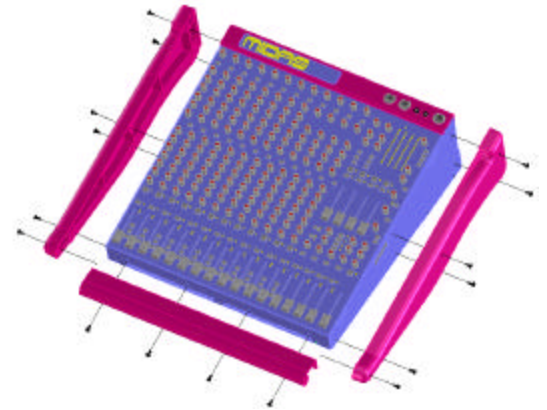

fig. 4
2. Loosen the 16 screws shown in fig. 4 with the Torx screwdriver and remove the two plastic side covers and the armrest. Keep the side covers, the armrest and the screws for later use.